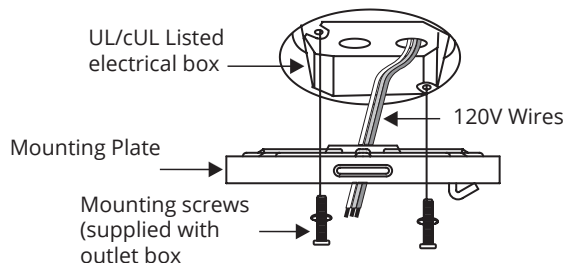

FIGURE 6
4. Secure the mounting bracket to the ceiling outlet box with the screws and washers provided with your outlet box. (Fig. 6)